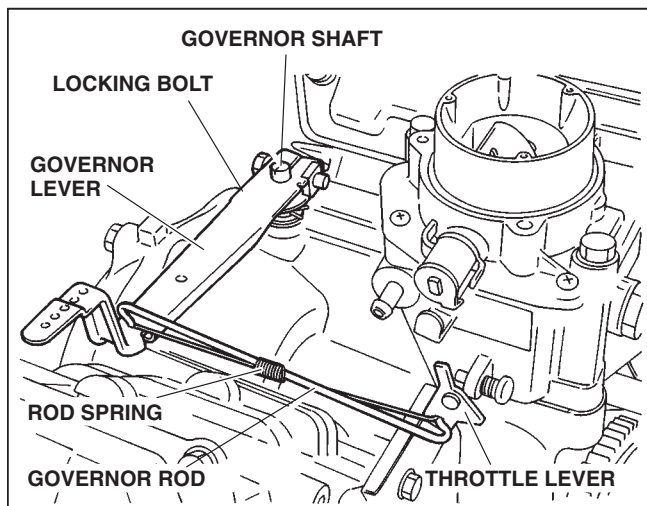
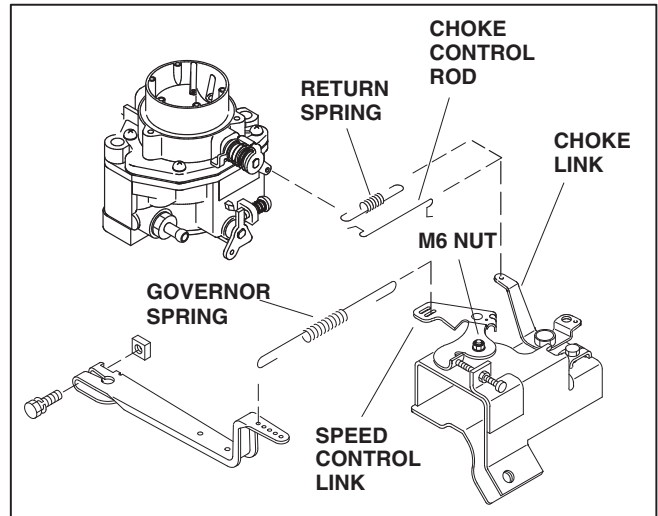

FIGURE 6-16.
FIGURE 6-17.
1. Attach governor rod and rod spring between the governor lever and carburetor throttle lever. Insert the governor lever on governor lever shaft (Figure 6-16). Finger-tighten the M6 locking bolt, washer and square nut.
2. Reinstall the speed and choke linkage mounting bracket and secure with (3) M6 flange bolts.
3. Attach one end of the governor spring on the speed control link and the other end on the fifth hole of the governor lever (Figure 6-17).
4. Attach the choke control rod and the return spring between the choke control lever (on carburetor) and the choke control link (Figure 6-17).